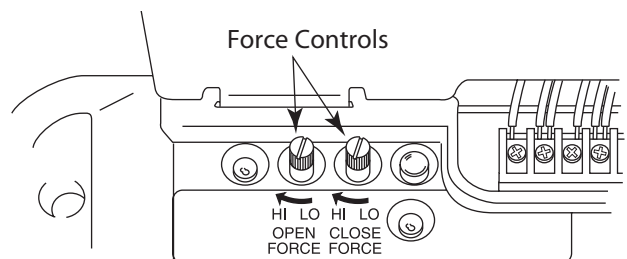

Figure A-1 Making Force Adjustments
- A** Pre-set Force Controls to midpoint between Hi and LO (**Figure A-1**).